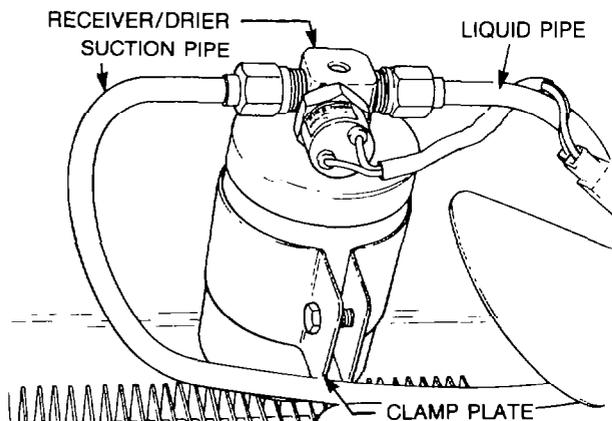

Figure 37 — Receiver/Drier — Removal
- e. Loosen the bolt securing the clamp to the receiver/drier, then remove the receiver/drier from the clamp (see Fig. 37).